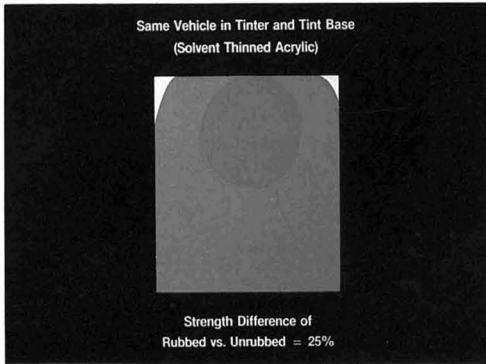

Figure 1—Effects of dispersing medium
*Figure 1* shows what may, and often does, happen when a tinter is added to a white containing the self-same vehicle system, in this case, an acrylic resin. Strong rub-up occurs due to incomplete incorporation or flocculation of the tinter pigment. High-energy mixing would diminish the rub-up but would not eliminate it altogether.